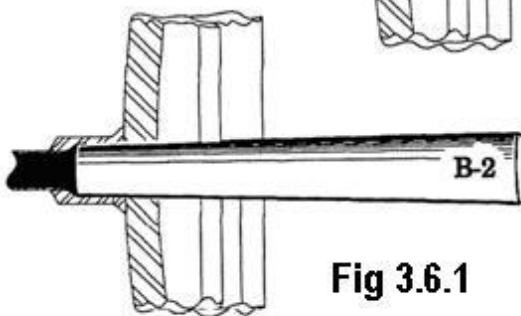

Fig 3.6.1
- A) Drive medium DRIFT PIN B-2 (Fig 3.6.1) into valve opening and apply DEVICE 12 (Hood and Bar Assembly) (See Section 4 for instructions).